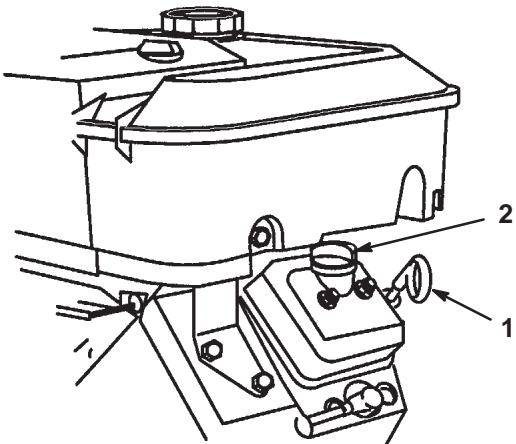

Figure 2
2. Clean around the oil dipstick (Fig. 2) so dirt cannot fall into the hole and damage the engine.
4. Slide the oil dipstick fully into the filler tube, but do not thread it onto the tube. Pull the dipstick out and look at the metal end. If the oil level is low, remove the filler cap from the valve cover (Fig. 2) and pour oil into the opening until the oil level is up to the “FULL” mark on the dipstick; refer to Servicing the Engine Oil, page 22, for the proper oil type and viscosity. Add the oil slowly and check the level often during this process. **Do not overfill.**